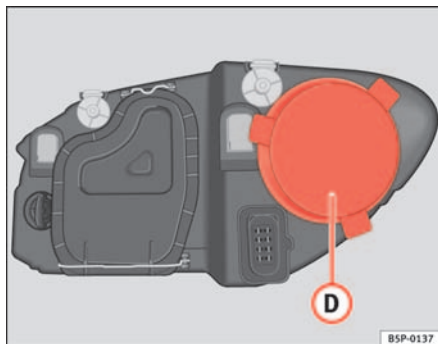

Fig. 160 Side lights
- Remove the cover ⇒ fig. 160 **D** by pulling on this.